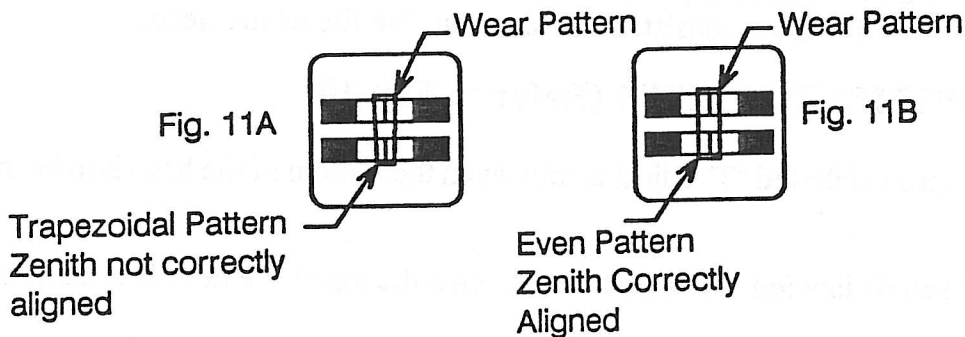

Figure 11 Zenith Adjustment Wear Patterns
5. Carefully pull the tape away from the heads. Shine the high intensity lamp onto the heads and use the white card as a reflector to inspect the wear pattern on the face of the Reproduce head. The tape will have removed the marking ink from a small area on the head, as shown in Figure 11.